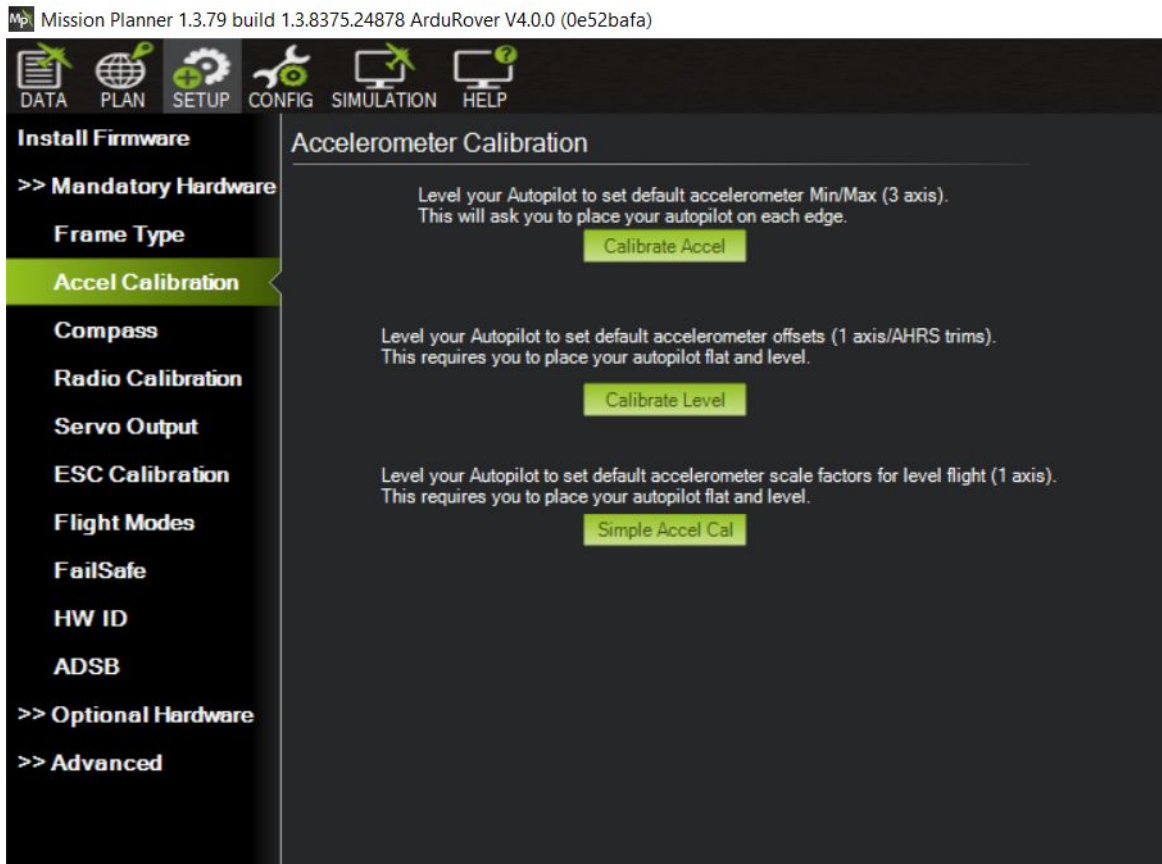

Figure 96: Accel Calibration
13. Select Calibration Level. (See Figure 96)